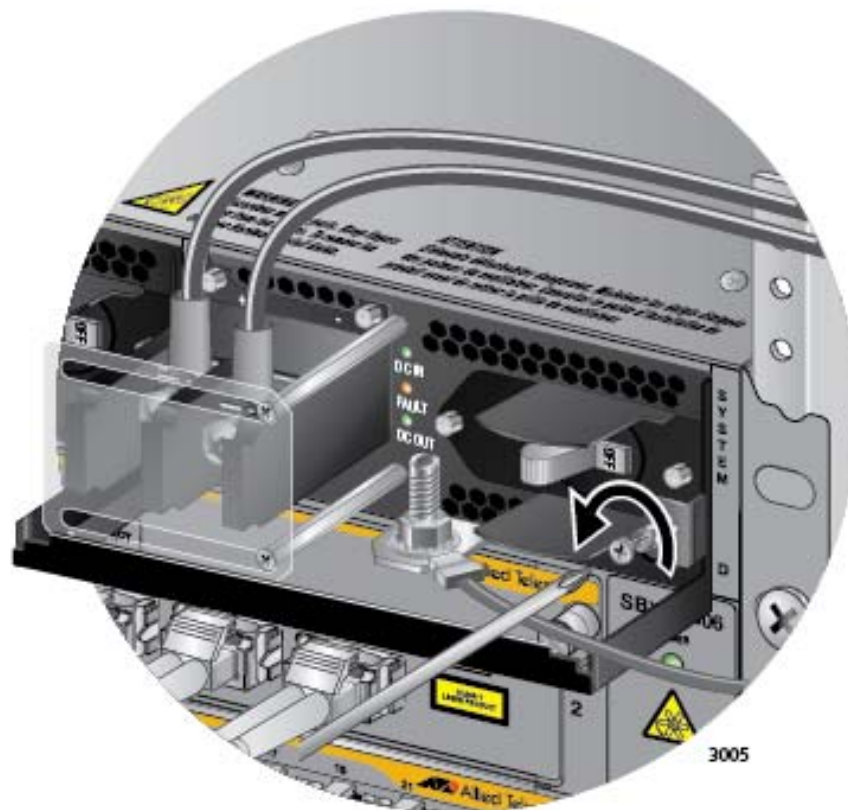

Figure 136. Loosening the Screw on the Locking Handle
3. Use a #2 screwdriver to loosen the screw on the locking handle. Refer to Figure 136.